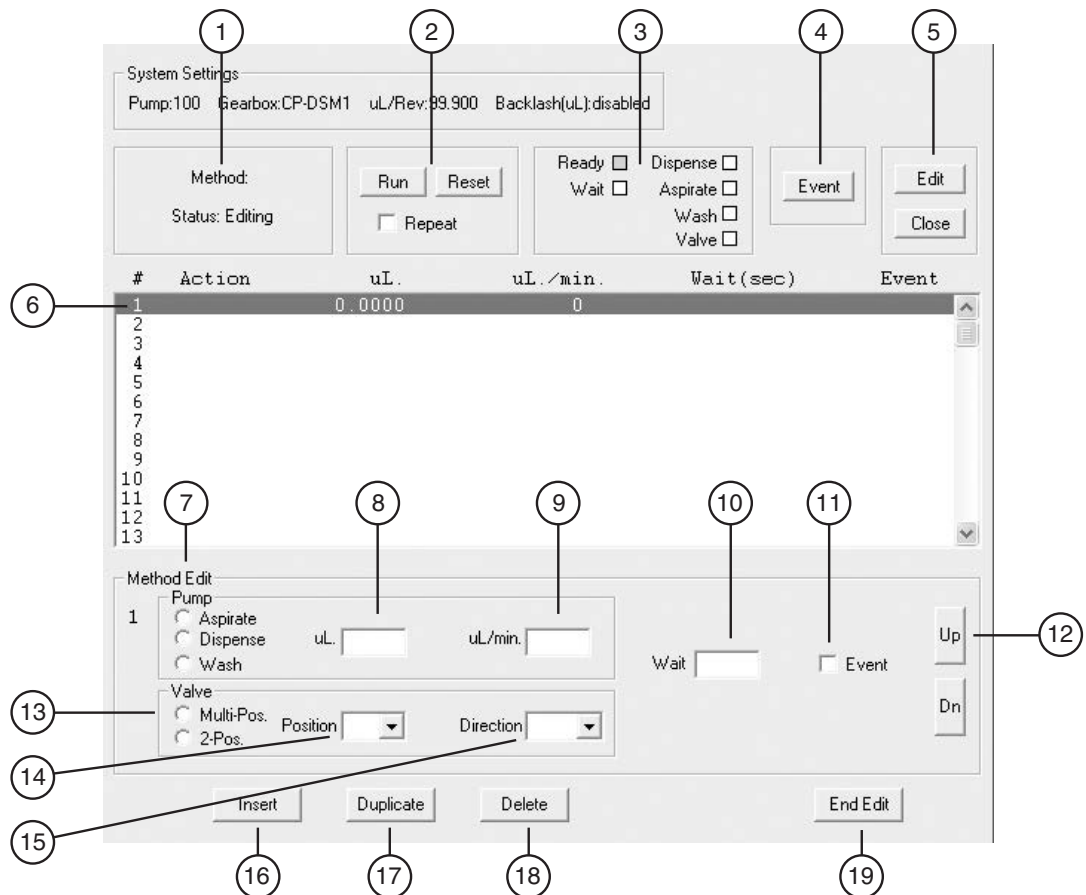

Figure 10: The Method screen
1. From the main menu, choose Method > New to open the screen in **Figure 10** on page 12.